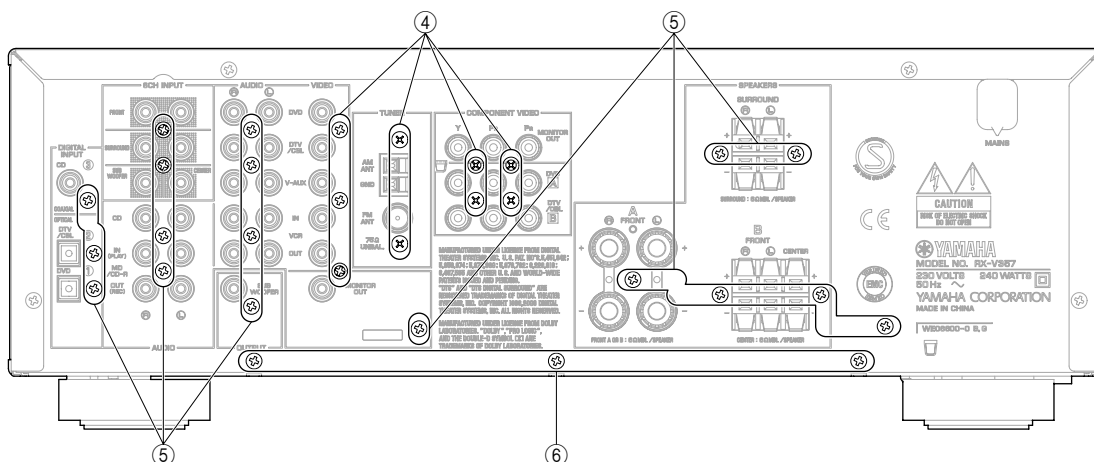

Fig. 3
- b. Remove 9 screws (④). (Fig. 3)
- d. Remove 18 screws (⑤). (Fig. 3)
- e. Remove 3 screws (⑥). (Fig. 3)
- b. Remove 3 screws (⑥). (Fig. 3)